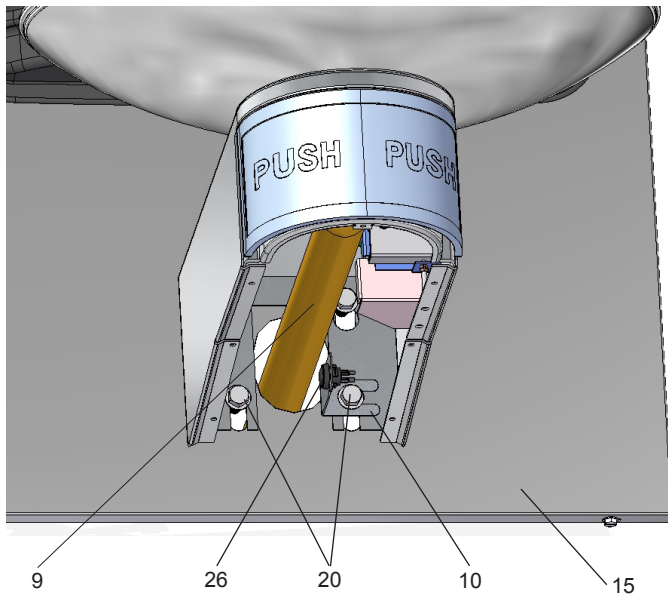

Figure 5 - Fountain Installation
7. **Install** fountains with (8) 5/16-18 HHMS (provided) (Fig 5). Connect the 1/4" water lines from each fountain to the remaining openings on the tee at the remote chiller (cut lines to fit as needed).
8. **Install** reset switch and mating bracket on lower fountain (lower right bolt) for bottle filler (Fig 5). Connect the switch wire to the extension wire on the back of the bottle filler. Wrap up the excess cord.
- 1) To access the program button, remove #10-24 screws, remove bottom cover on lower fountain arm (Fig 5). Reset button is located on mounting bracket.